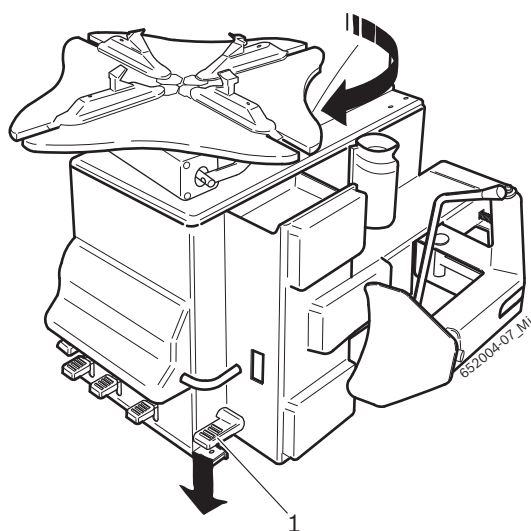

Fig. 2: Check rotation direction.
For a correct functioning of TCE 4335 it is extremely important that, when the locking flange pedal shown in Fig. 2 (1) is pressed, the locking flange (Fig. 2) rotates clockwise.